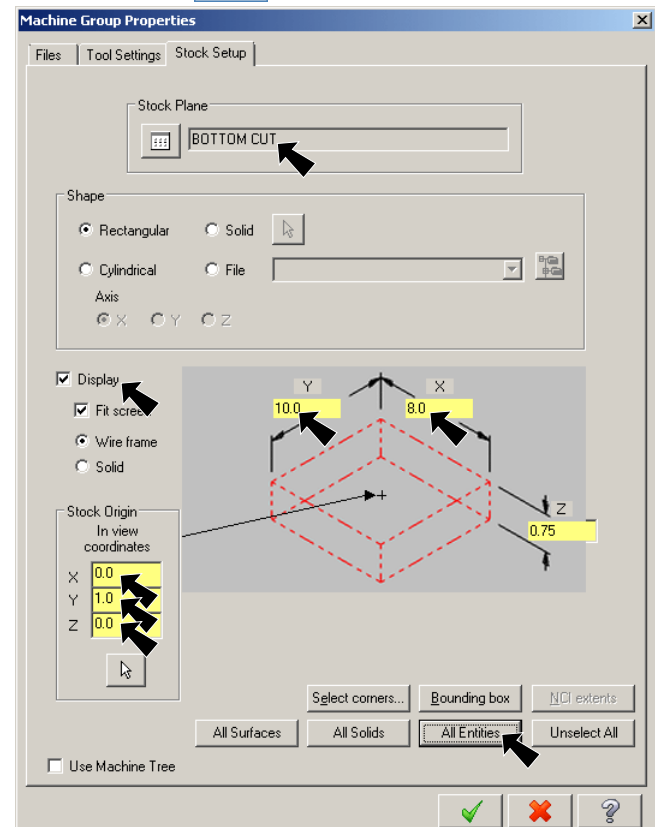

Fig. 39
Step 3. Expand **Properties** (click +) in the Toolpaths Manager and click **Stock Setup** in the Toolpaths Manager, **Fig. 39**.
Step 4. Confirm Stock Plane is **BOTTOM CUT**, **Fig. 39**.